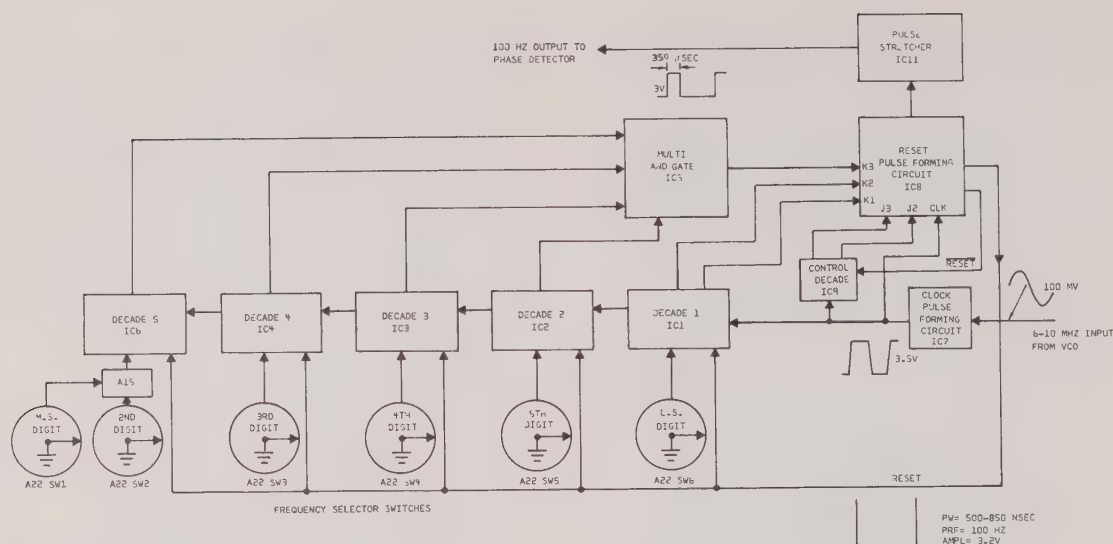

Figure 4-2. Divide-by-N Counter, Simplified Block Diagram
4.43 As has been stated, the VCO must produce a signal with a frequency of 6.3456 MHz for a dialed-in frequency of 123.456 MHz. The VCO sinewave output is connected to the clock pulse-forming network, IC7 (Figures 4-2 and 6-14). In the example, the $\div N$ Counter must count 6,345,600 pulses per second and produce a signal of 100 pulses per second (100 Hz). This means that for every 63,456 input (clock) pulses, the counter must produce one output pulse. $\div N$, in this case, is 63,456.